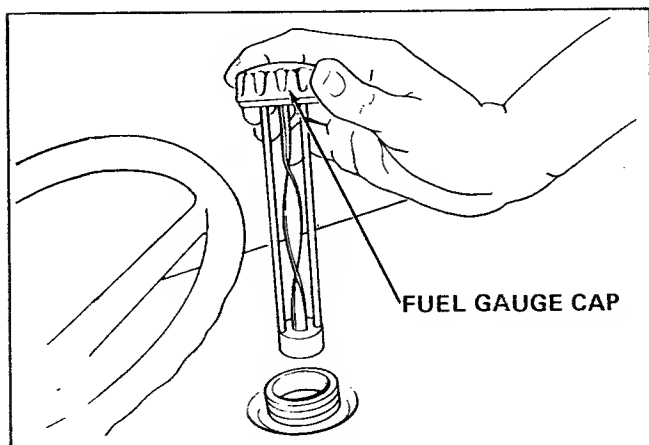

Figure 3. Remove Fuel Gauge Cap
- a. Remove fuel gauge cap as shown in figure 3.